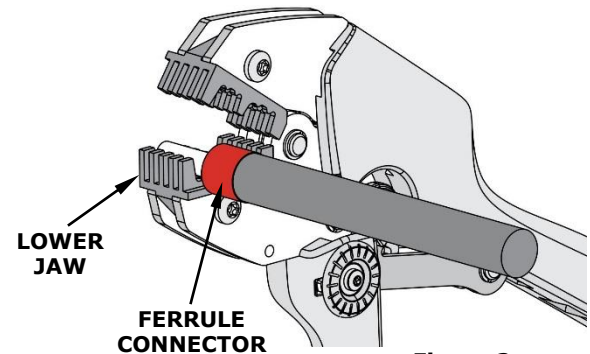

Figure 2
2. Place the ferrule connector with the wire onto the lower jaw of the hand tool, ensuring that the end of the ferrule does not extend beyond the side face of the jaws. See Figure 2.